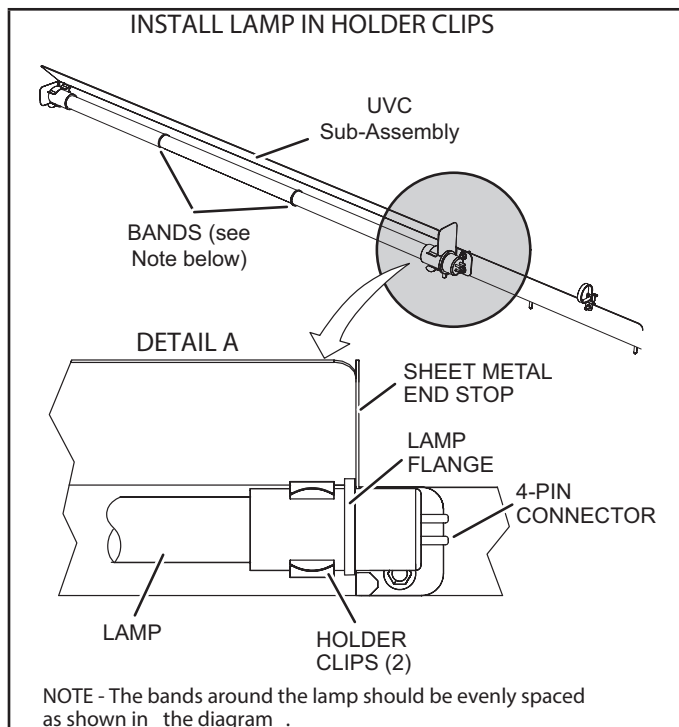

FIGURE 44
- 6 - Wear cotton gloves or use a cotton cloth when handling the new lamp. Place the new lamp in the holder clips of the UVC assembly. Verify that the lamp flange at the connector end is sandwiched between the lamp holder clip and the sheet-metal end stop (see FIGURE 44).